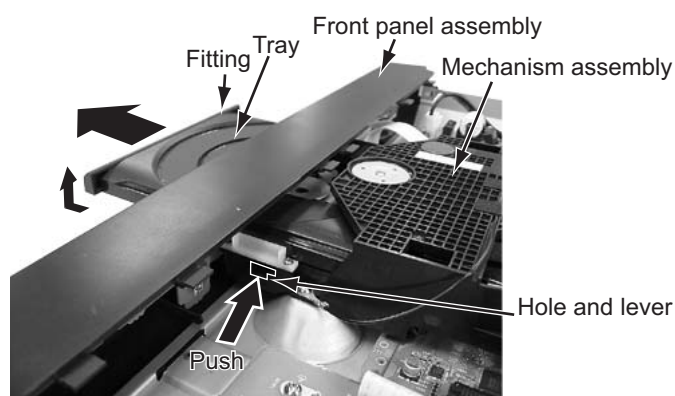
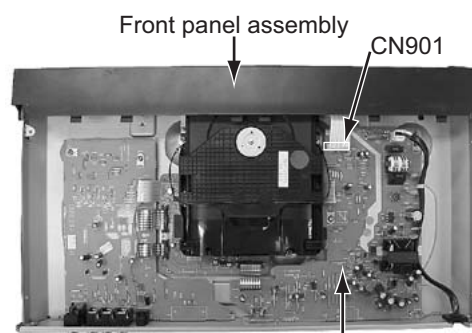

Fig.2
Fig.3
2.1.2 Removing the front panel assembly (See Figure 2, Figure 3, Figure 4)
2.1.3 Removing the mechanism assembly (See Figure 2, Figure 5)
2.2.1 Removing the tray (See Figure 1, Figure 2, Figure 3, Figure 4, Figure 5, Figure 6)
- (2) The tray comes out. Pull the tray in a front direction until it stops.
- (3) Remove the two screws **A** attaching the slide bracket. (See Figure 2.)
- (4) Tilt the tray in a direction of the arrow around the point in the left rear part of the tray. (See Figure 3.)